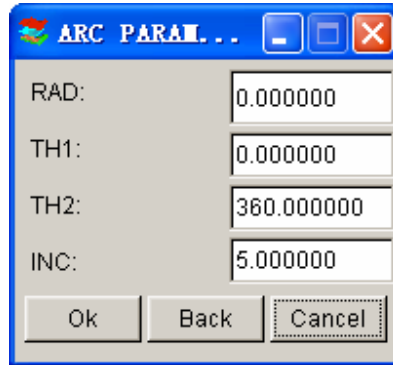

Figure 5.1.3 Arc Parameters
- Enter the values in the ARC PARAMETER dialog window. See Figure 5.1.3.